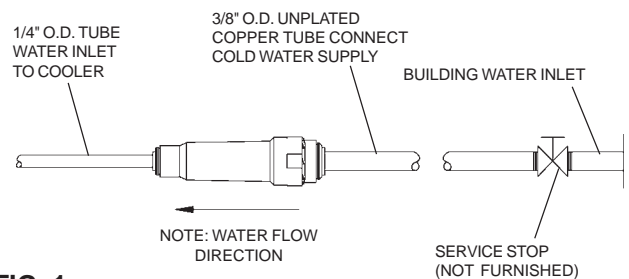

FIG. 1
3. Connect fountain to supply line with a shut-off valve and install a 3/8" unplated copper water line between the valve and the cooler. Remove any burrs from from outside of water line. Push the tubes straight into the fittings until they reach a positive stop, approximately 3/4" (see figures 1 and 2). **DO NOT SOLDER TUBES INSERTED INTO THE STRAINER AS DAMAGE TO THE O-RINGS MAY RESULT.**